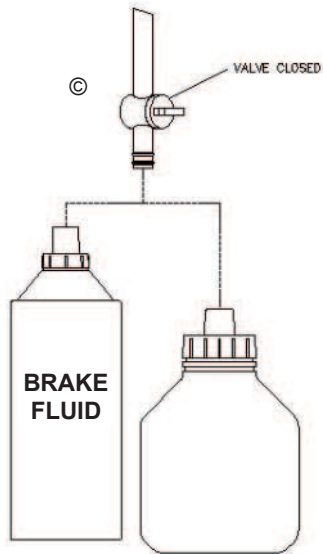

Figure 4
7. Remove the Valve Assembly from the base and insert it into the lid of the pre-filled Reservoir Bottle or into the Adapter Cap installed on a bottle of brake fluid (Fig 4).